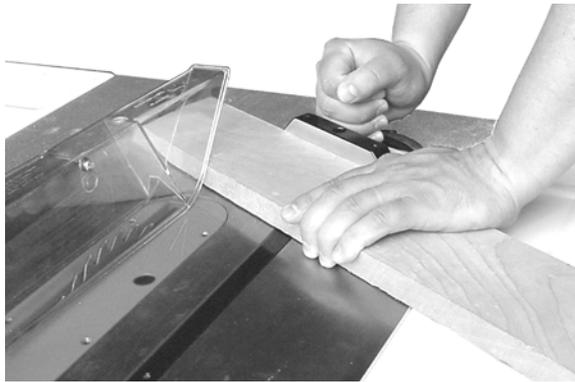

Figure 45
**Crosscut** – Crosscuts made at an angle to the edge of the workpiece are called miters (Figure 45). Set the miter gauge at the required angle, lock the miter gauge, and make the cut the same as a normal crosscut except the workpiece must be held extra firmly to prevent creeping.